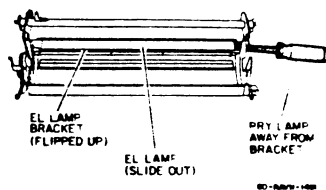

Figure 2. Lamp Removal
- b. Cut cable ties (2).
- f. Pry ends of lamp out to loosen doubleback tape holding EL lamp to bracket (Figure 2).